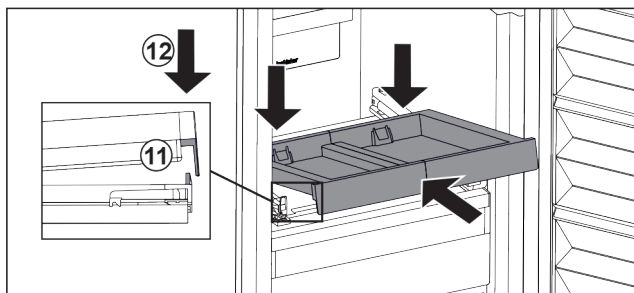

Fig. 35
- Slide it in at an angle. Make sure that the stop is behind the lug on both sides. Fig. 35 (11)
- Lower the pull-out board at the front. Fig. 35 (12)